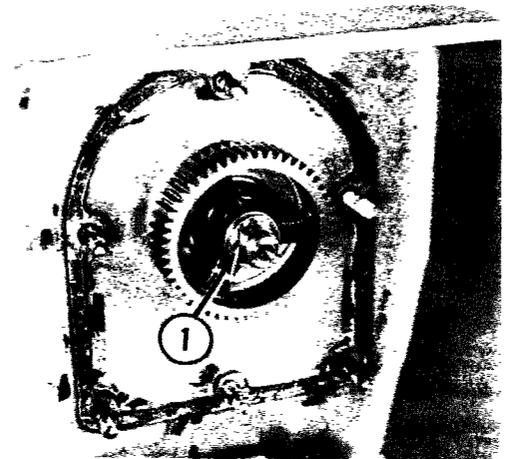

Fig. 2-37
- (20) Remove the retaining ring, washers, bowl drive gear key and spacer (1, Fig. 2-37).